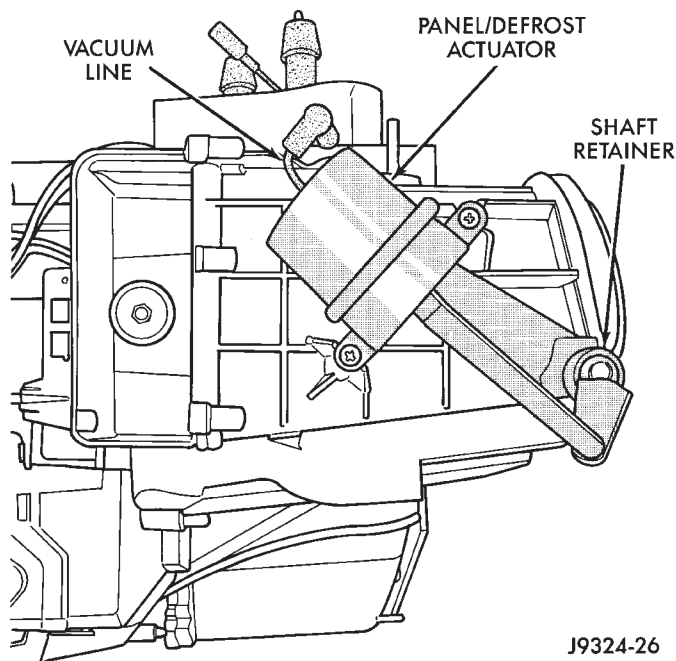
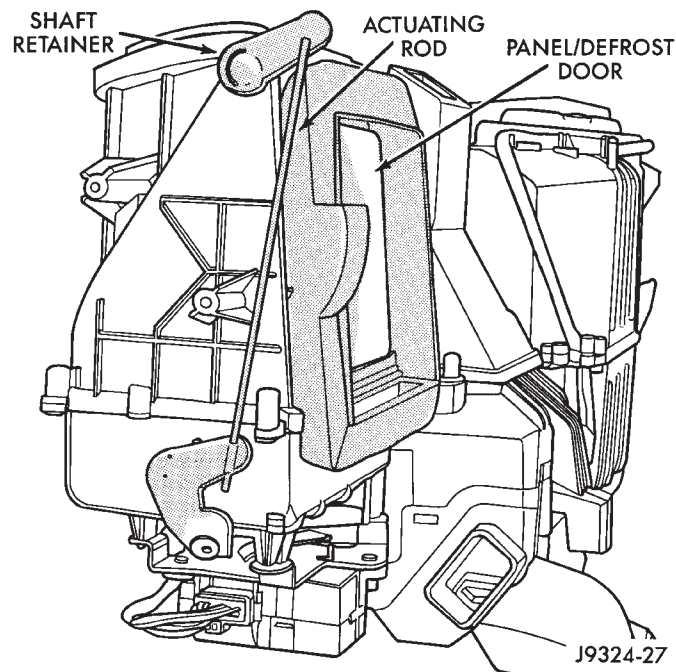

Fig. 52 Panel/Defrost Door - Manual
Fig. 53 Panel/Defrost Door - ATC
(1) Disconnect and isolate the battery negative cable.
(2) Remove the instrument panel as described in Group 8E - Instrument Panel Systems.
(3) Disconnect the panel/defrost door actuating rod (Fig. 52) or (Fig. 53).